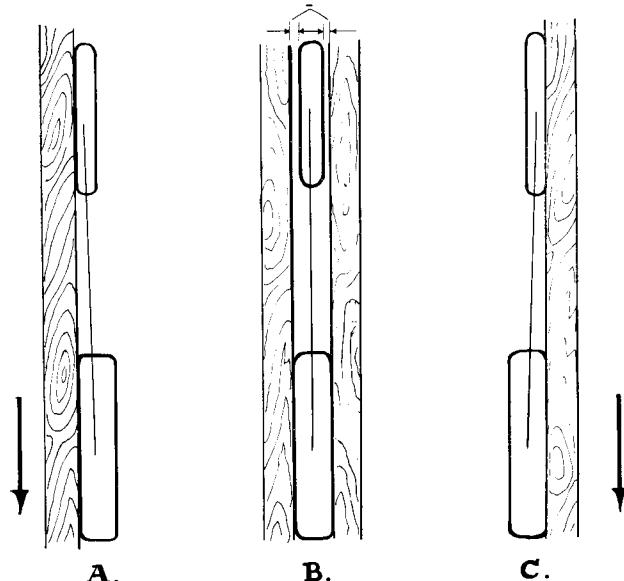

FIG. F.17. *Checking alignment.*
If the front tyre is of smaller section then it should be as drawing (B) Fig. F.17.